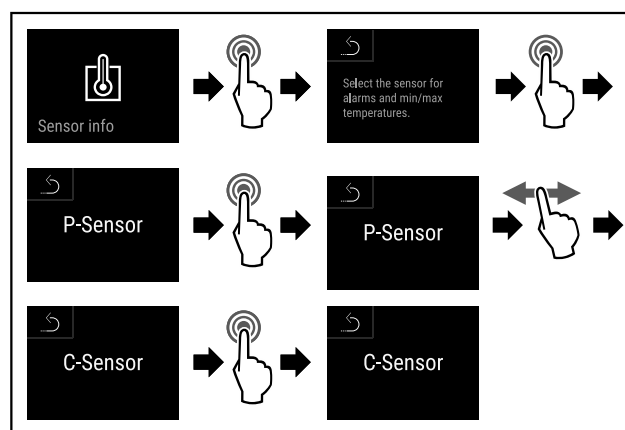

Fig. 144
- ▶ Complete steps (see Fig. 144).